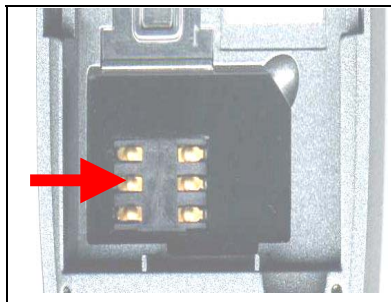

Fig. 10.1
- Check the SIM Card Connector (Fig. 10.1) if it's incorrectly soldered, Mechanically damaged, dirty or oxidized.